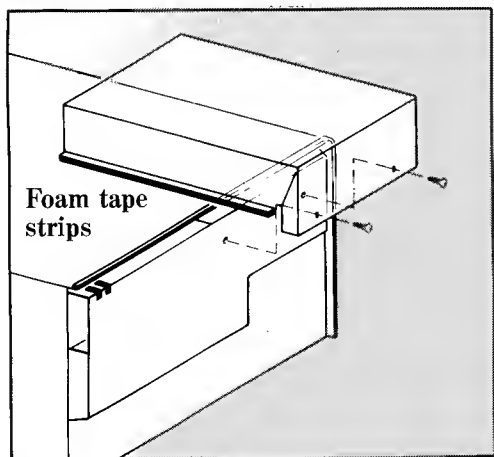

Fig. 7
2. Fit the foam rubber strips onto the lips on the under-side of the steam ventilation cowling (Fig. 7). Then position this on the microwave to ensure the two holes in the cowl align with the corresponding holes in the back panel of the microwave. Secure with the